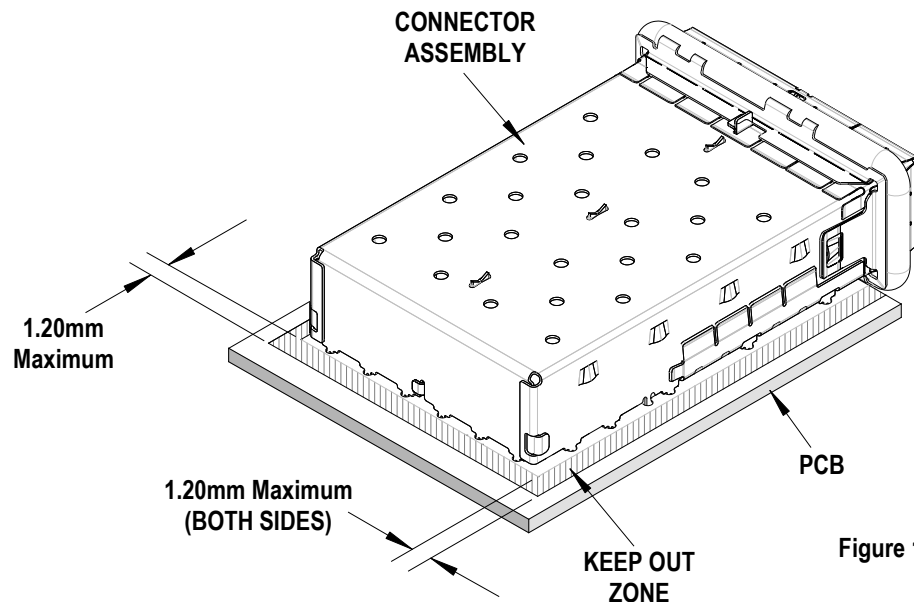

Figure 1
- This tool is used in place of tool 62202-9890 when the “Keep Out Zone” is reduced to 1.20mm. See Figure 1.
2. These tools require a “Keep Out Zone” around the connector free of components. The rear of the connector should be .200” (5.08mm). The right and left sides should be .080” (2.00mm). See Figure 1.